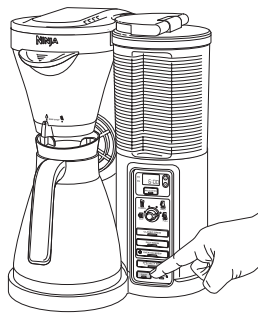

Fig. 21
- 3 Once the water reservoir is filled with your cleaning solution and water mixture (**not exceeding the Clean Cycle Max Fill line**), simply press the Clean button to activate the clean cycle. (**Fig. 21**)